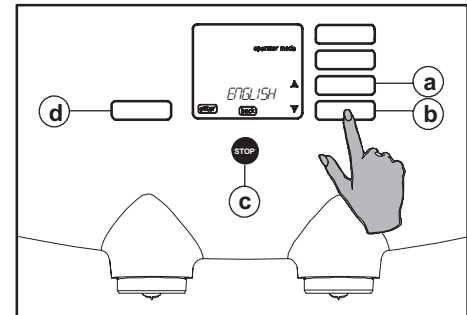

Fig. 61 Selecting the language
4. Press the enter button (fig. 61 d). The display shows the language selected.
5. With the scroll buttons \updownarrow , select the desired language (fig. 61 a or b).
6. Press the enter button (fig. 61 d) to confirm the setting.
7. Then press the stop button (fig. 61 c) to end the programming.